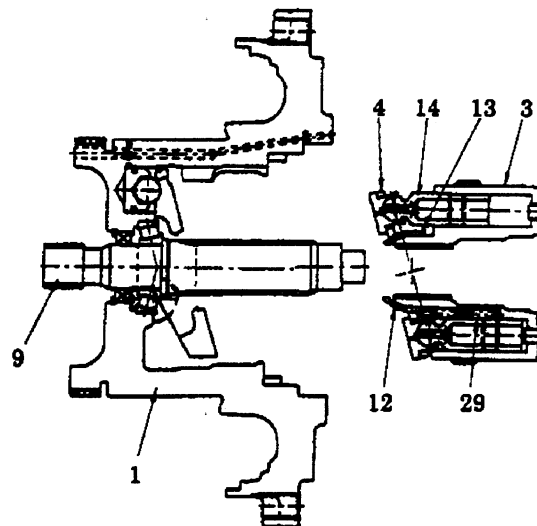

Fig. 17 Installing piston assy
- 4) Put shaft (9) in casing (1). In that case, coat the surface in contact with seal (27) with grease.
- 5) Insert tilting piston (21).
- 6) Insert pivot (23). Fit the pivot to the side on which its matching mark meets that on the swash plate. For a long period of operation, set the pivot in the direction in which the sliding trace on the spherical area agree with the contact marks of swash plate (11).
- 7) Fill the three spherical areas of swash plate (11) with sufficient grease and install it.
- 8) Fit piston assembly (14), shoe retainer (4), ball joint (12), retainer seat (13) and cylinder spring (29) into cylinder block (3) as shown in Fig. 17.